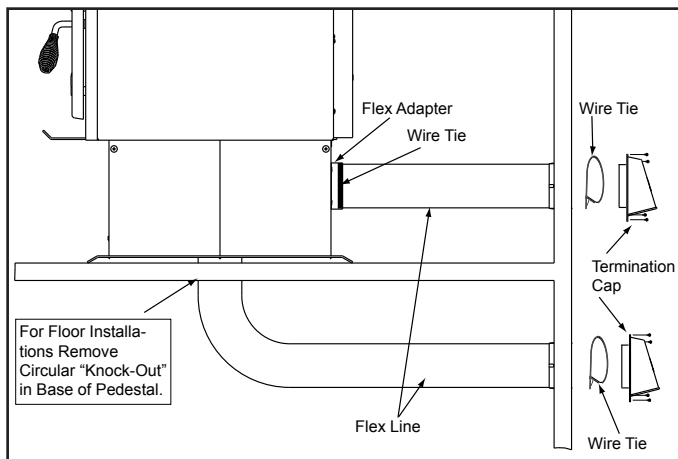

Figure 39.1 - Floor & Rear Installation
2. Using a #2 Phillips screw driver attach the flex adapter to the appliance using 4 screws. Secure with Wire Tie. **Figure 39.1.**
5. **Floor Installation Alternative:** In some instances you may not be able to install the flex pipe as show in **Figure 39.1.**